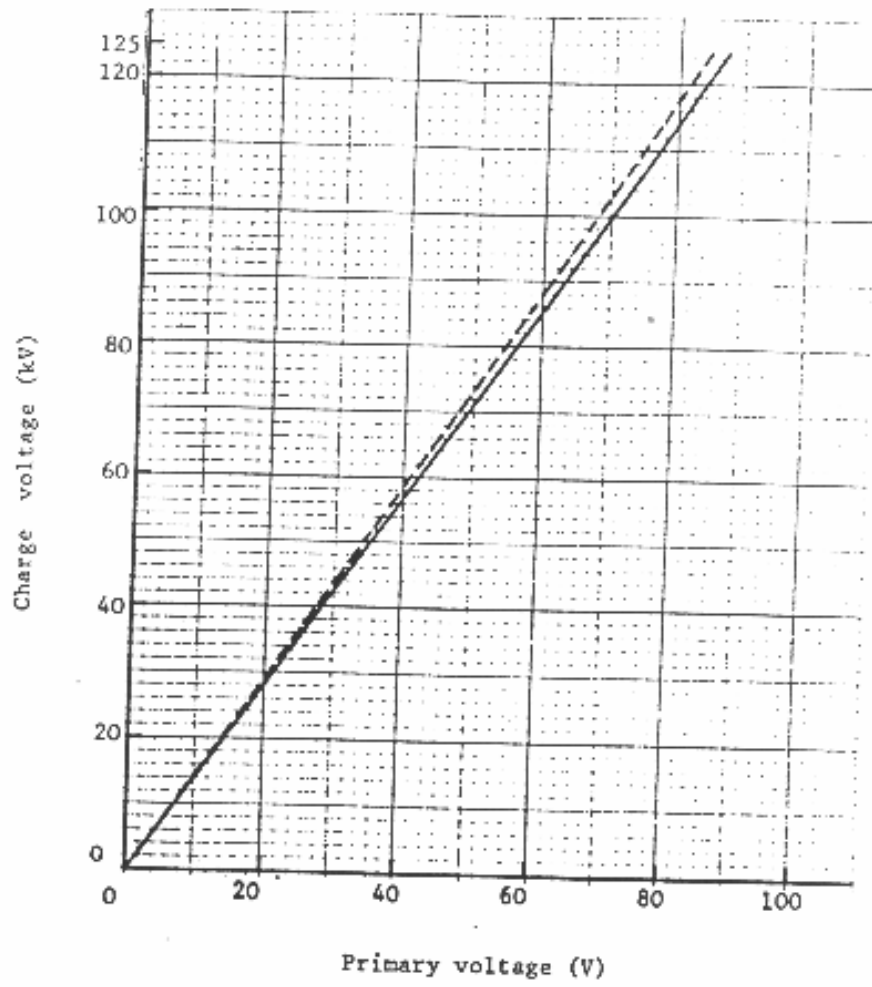

Figure 7
8. The graph at Fig 7 defines the relationship between kV applied to the X-ray tube and the primary voltage during an actual radiographic exposure (drawn in solid line). The dotted line shows the charge voltage applied to the HT capacitors, the difference between the two graphs being the volts dropped across any resistance in series with the X-ray tube.
9. In this particular case the primary voltage will be  $60 \pm 6V$  and the kV will be between 95 and 77kV. Refer to the graph at Fig 7 for the exact value of kV that is generated by the measured primary voltage.
10. Adjust the potentiometer kVM on the control pcb (zone C) so that the kV reading on the kV meter is correct for the primary voltage as defined on the graph Fig 7.